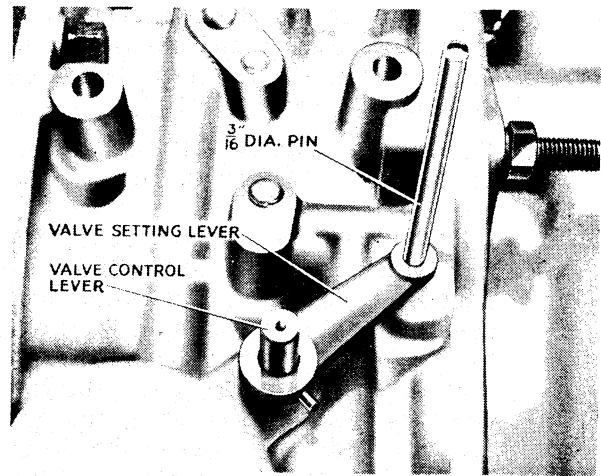

Fig. 36 Method of setting Valve Operating Levers.
9. On the right of the overdrive unit and pinned to the valve operating shaft, is a valve setting lever with a $\frac{3}{16}$ " diameter hole. In the casting adjacent to this lever is another $\frac{3}{16}$ " diameter hole. The valve setting lever should be rotated until the two $\frac{3}{16}$ " diameter holes coincide and then a $\frac{3}{16}$ " pin inserted through the lever into the casting, thus locking the operating shaft (Fig. 36).
On the O/S of the overdrive unit and pinned to the valve operating shaft, is a valve setting lever with a $\frac{3}{16}$ " diameter hole. In the casting adjacent to this lever is another $\frac{3}{16}$ " diameter hole. Actuate the solenoid with a 12 volt battery and while the plunger is drawn into the solenoid, and if the valve adjustment is correct, it should be possible to insert a $\frac{3}{16}$ " diameter pin through the valve setting lever and into the casting (see Fig. 36).